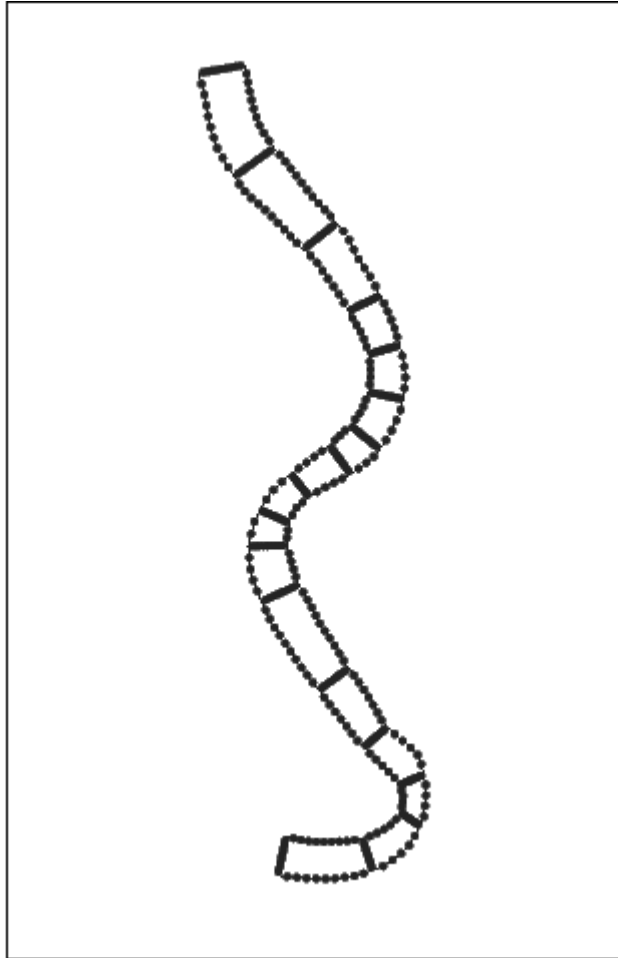

Figure 6 Arcs created across the channel
1. With the **Create Feature Arc**  tool, create sixteen perpendicular arcs across the channel as shown in Figure 6.